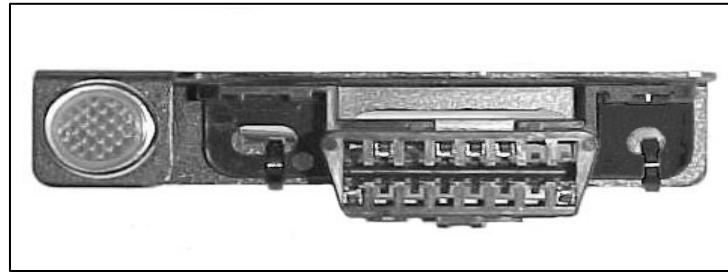

FIGURE 6.1 DLC Connector & Check Engine Light
The wires in this group consist of the diagnostic link connector (DLC) (SEE FIGURE 6.1), the check engine light (pre-mounted into a mounting bracket), fuel pump relay, emissions devices (optional) and 6 other wires.
- D. **DLC** - The Data Link Connector (**DLC**) **Figure 6.1** is used to communicate with the PCM. The Powertrain On Board Diagnostic (**OBD**) System Check is an organized approach to identifying a problem created by an electronic powertrain control system malfunction. The Powertrain OBD System Check is the starting point for any drivability concern diagnosis. The Powertrain OBD System Check directs the installer to the next logical step in diagnosing a drivability concern. Understanding and using the Powertrain OBD System Check correctly will reduce the diagnostic time and prevent the replacement of good parts. Mount the DLC connector using the bracket that the light is mounted in allowing access to the front of the connector allowing you to see the light while driving. **See Figure 6.1**